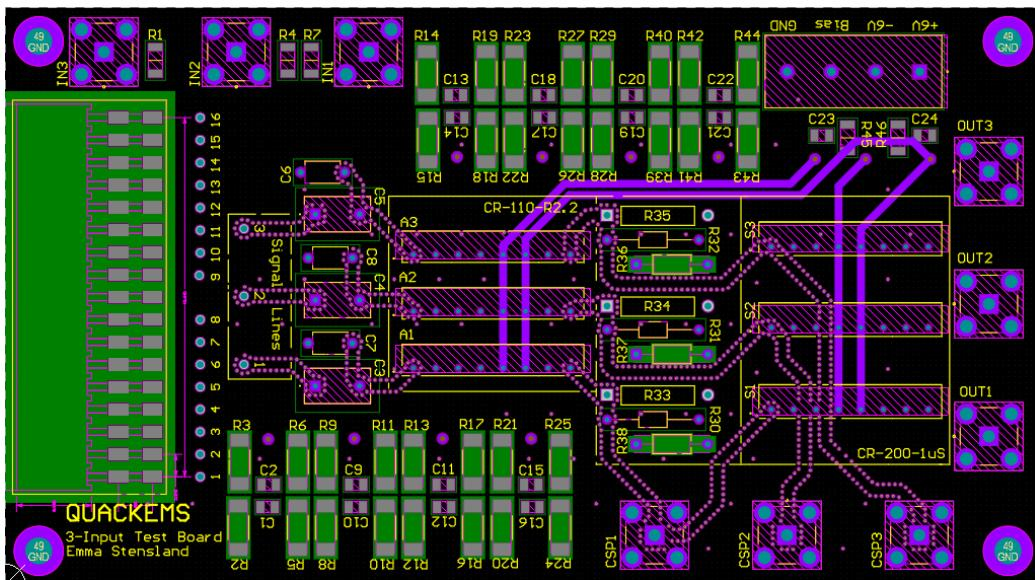

Figure 12: Layer 4 of 3-Input Test Board
4. Power Lines for Preamp and Shaper (Fig. 12)